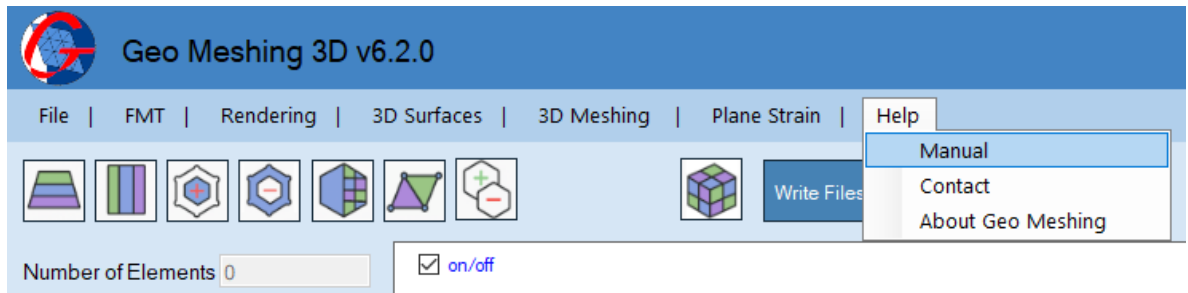

Figure 38: Help Strip Menu – Manual.
- **Help Menu, Manual:** This option (shown in Figure 38) opens this manual.